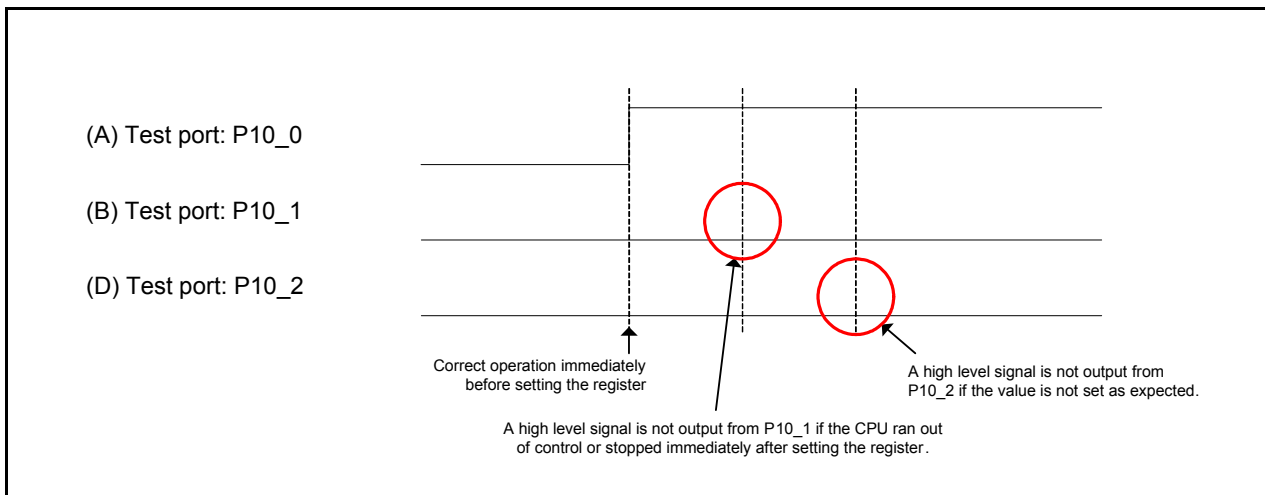

Figure 4.6 Waveform when the Program Stopped or Ran Out of Control after Setting a Register
High level signals may not output from test ports (B) and (D) as shown in Figure 4.6. Refer to the User's Manual: Hardware to check whether the register setting procedure, recommended operating conditions of electrical characteristics, and related notes are correctly followed.